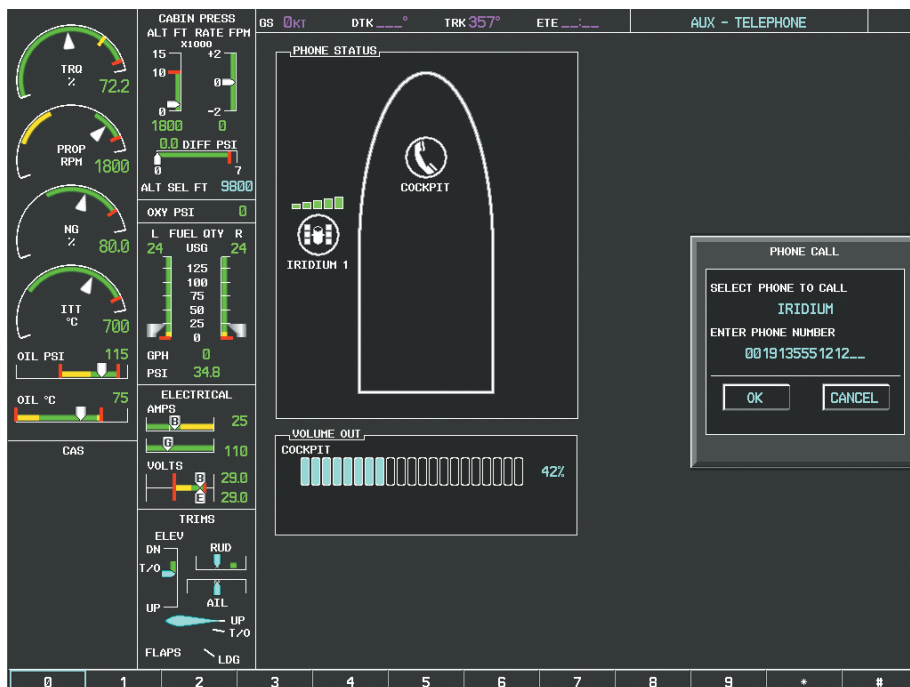

Figure 8-91 Make the Call
- 4) Press the **ENT** Key. 'OK' is highlighted as in Figure 8-91.